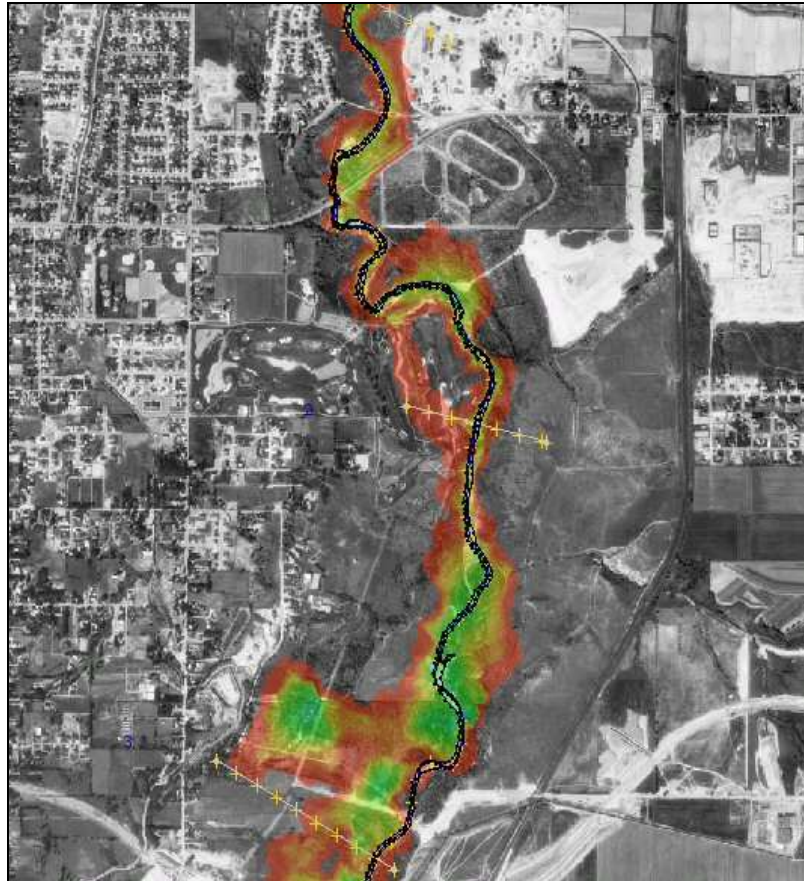

Figure 7 Flood depth map
13. Select “W.S. Elev-PF 1\_wl” from the Project Explorer and experiment with viewing the results, similar to the flood depth. Users may also want to experiment with adjusting the transparency and turn the background image on as shown in Figure 7. When specifying the range, notice that the default values are actual TIN elevations.